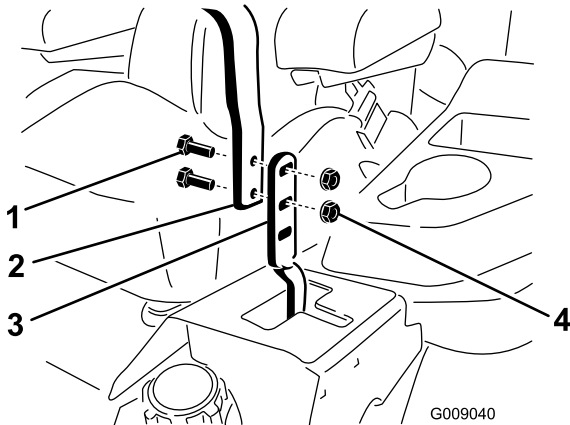

Figure 105
3. Loosen the bolts and flange nuts installed in the levers (Figure 105).